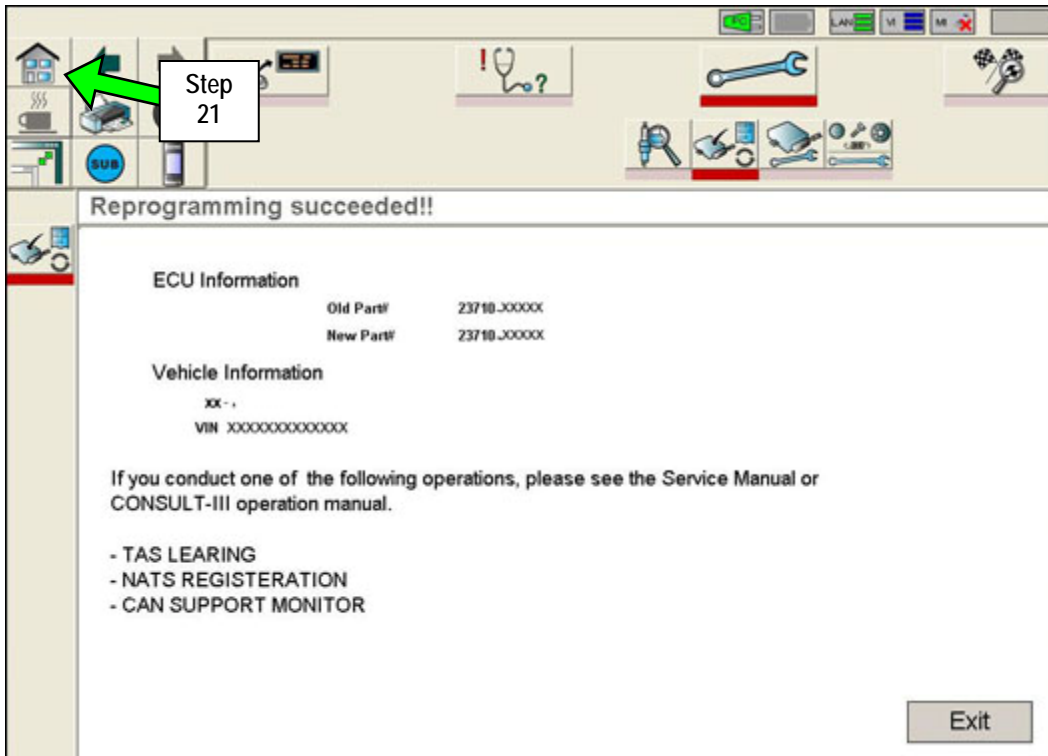

Figure 9
20. When the screen in Figure 9 appears, ECM reprogramming is complete.
21. Click on the "Home" icon (see Figure 9).